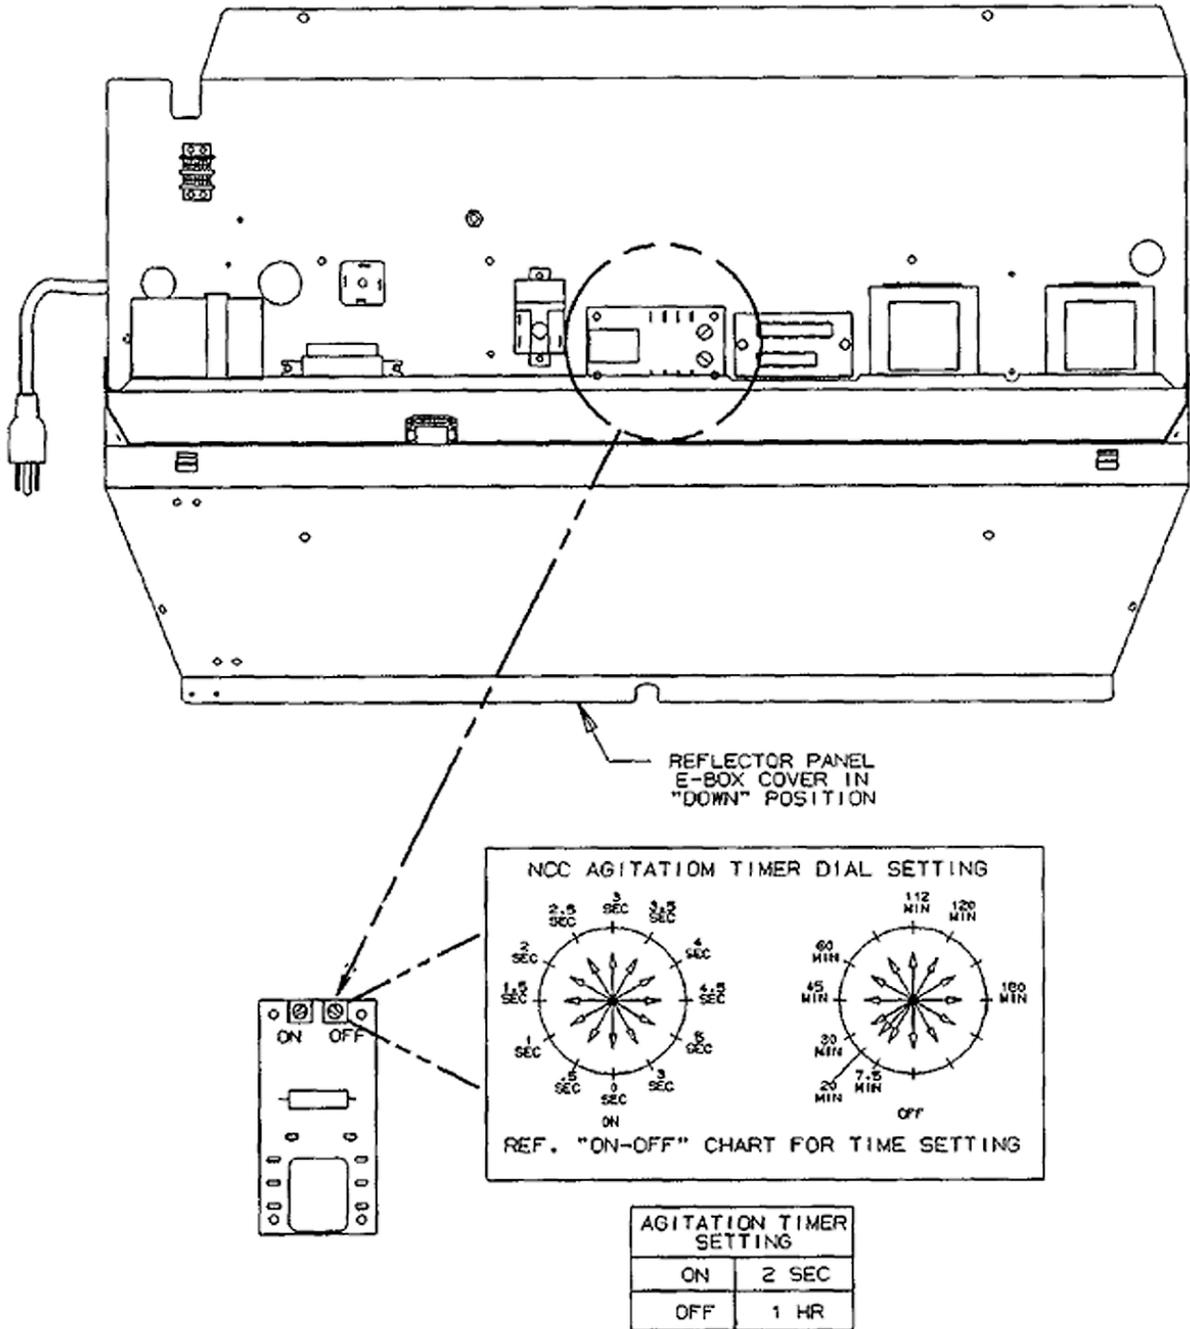

Figure 3.
3. Refer to Figure 3 for adjusting the automatic agitation timer.
- B. Adjust the timer to 2 seconds "ON" and 1 hour "OFF" as shown in Figure 3.